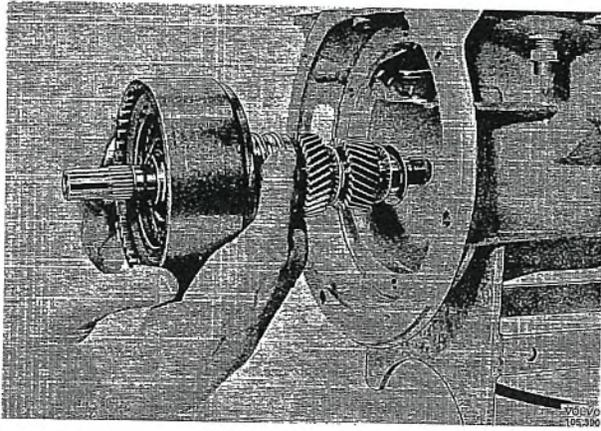

Fig. 4-102. Installing rear clutch and forward sun gear group
15. Install the rear needle thrust bearing and fit the clutch in the transmission as shown in Fig. 4-102.